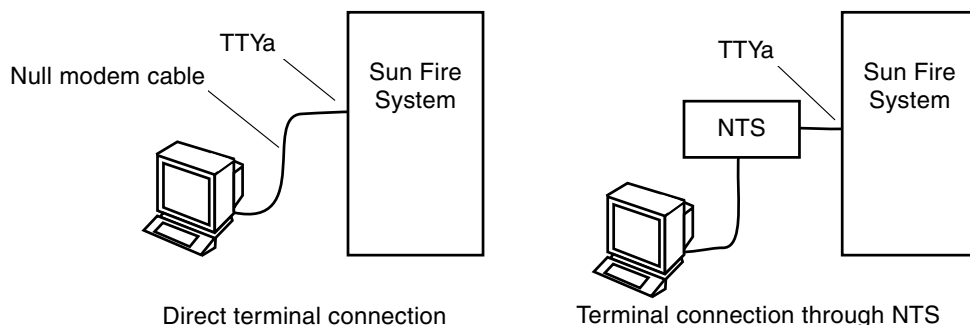

FIGURE 3-7 Serial Cable Connections
2. Connect the other end of the serial cable to the ASCII terminal or NTS server (FIGURE 3-7).